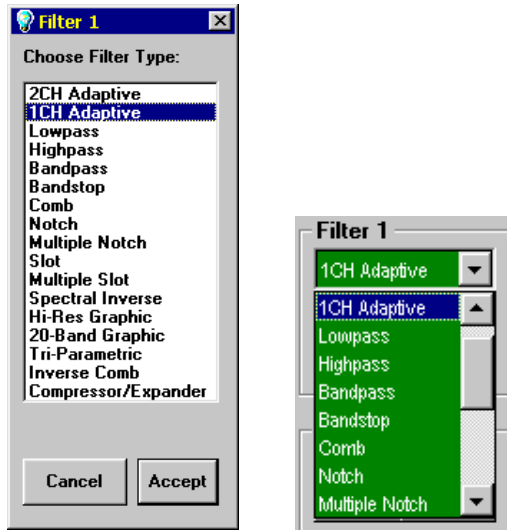

Figure 3-8 Tutorial Filter Selection Window
20. Click on the **Select** button in the Filter 1 block. A window similar to the one in Figure 3-8 will appear. Use the mouse to click on **1CH Adaptive**, then **OK\***. The Filter 1 block should now indicate that the selected mode is 1CH Adaptive.